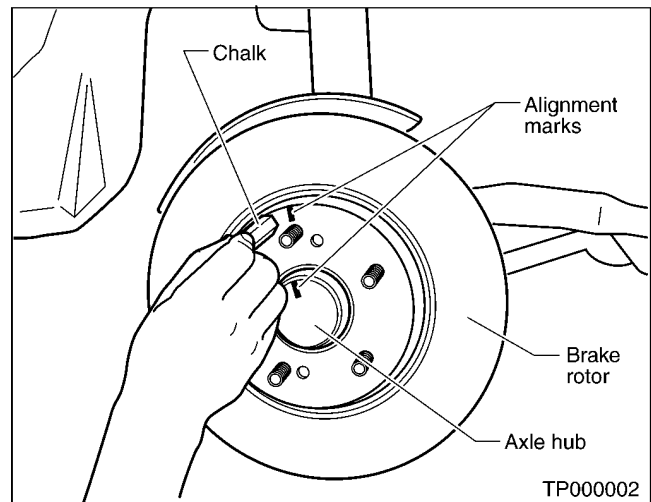

Figure 9
3. Place a reference mark on the rotor and hub (see Figure 9).